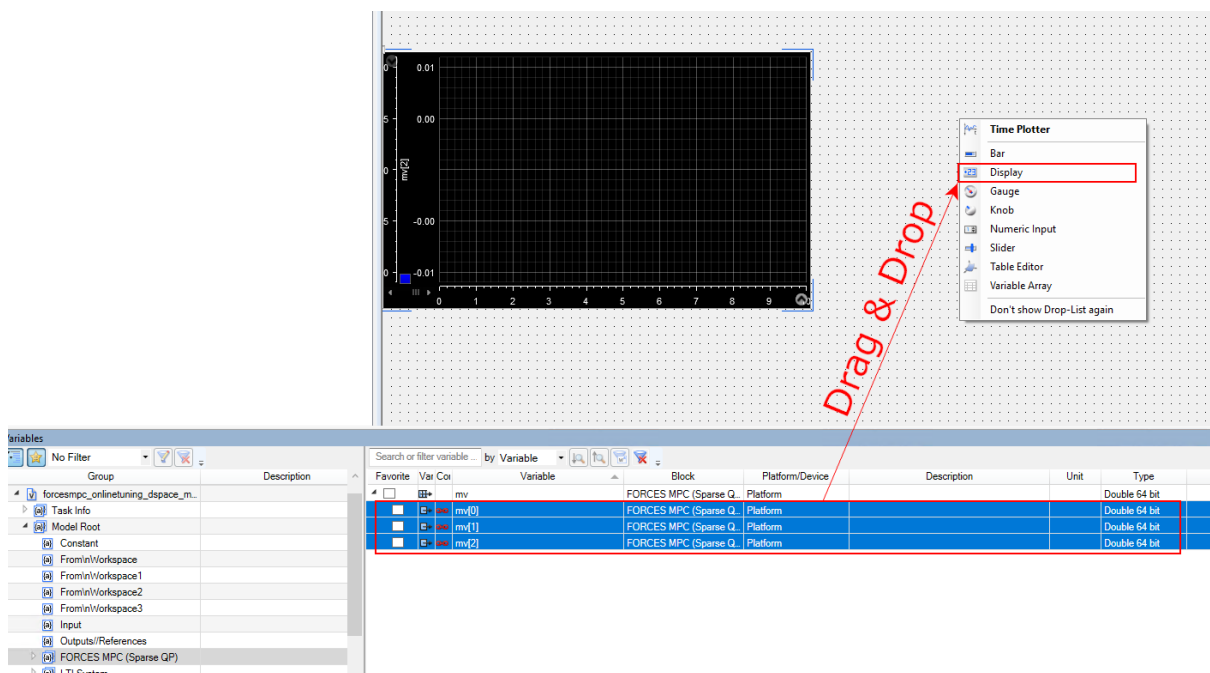

Figure 6.17: Add the variables as displays
- 13) Drag & Drop the output variables again and now choose **Display** (see Figure 6.17).